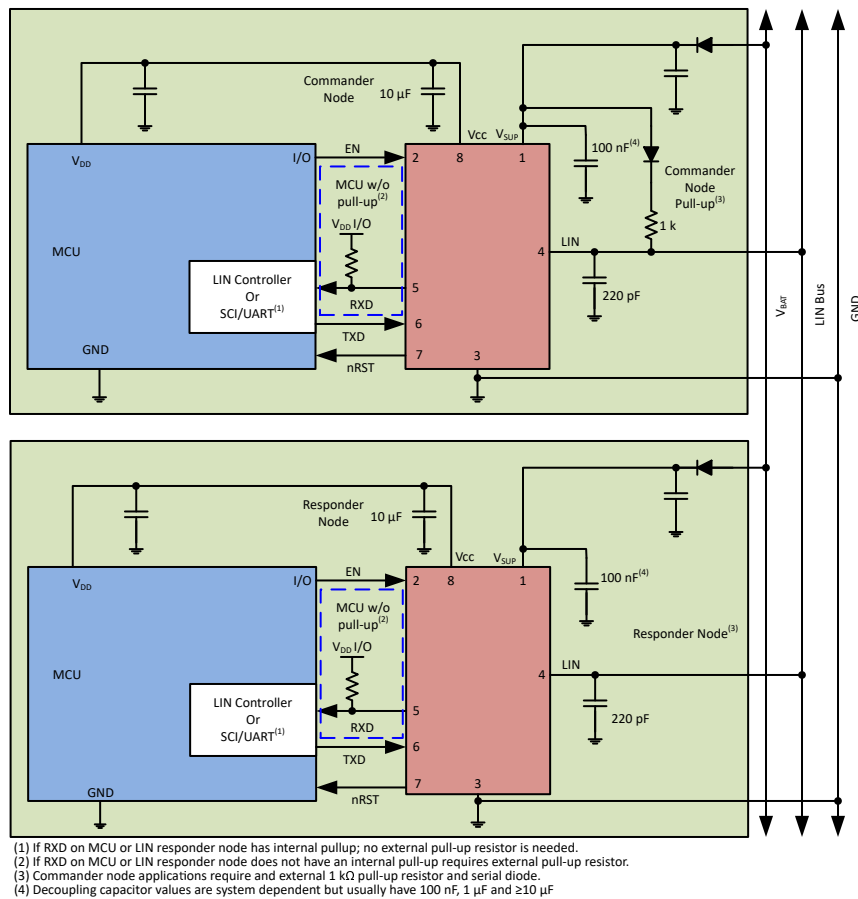

图 10-1. Typical LIN Bus
- **Pin 2 (EN):** EN is an input pin that is used to place the device in a low power sleep mode. If this feature is not used, the pin should be pulled high to the regulated voltage supply of the microprocessor through a series resistor, values between 1 k Ω and 10 k Ω . Additionally, a series resistor may be placed on the pin to limit current on the digital lines in the event of an over-voltage fault.
- **Pin 4 (LIN):** This pin connects to the LIN bus. For responder node applications, a 220 pF capacitor to ground is implemented. For commander node applications, an additional series resistor and blocking diode should be placed between the LIN pin and the V_{SUP} pin. See 图 10-1